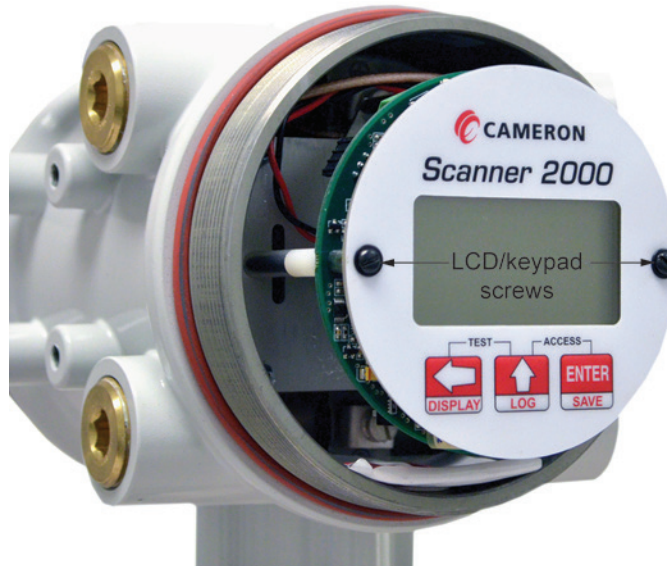

Figure 5.2—LCD/keypad screw locations
2. Remove the two #4-40 × 7/8" screws located to the right and left side of the display (Figure 5.2).
2. Remove the two #4-40 \times 7/8" screws located to the right and left side of the display (Figure 5.2, page 77).